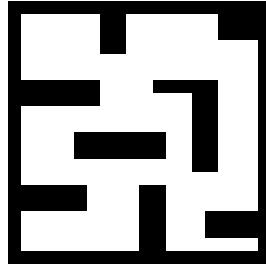

Figure 2: Map (map3_1.png)
Once in the Sweep mode, the second line of the LCD should display “Sweep”. Pressing the UP button should start the sensor autonomously to do a 360° clockwise (CW) scan of the surrounding area. The robot should be stationary. The robot then should find the nearest object and rotate itself counter clockwise (CCW) to face towards the identified shortest distance to the object. The robot will be tested in the given map with some random obstacles (see Figure 2).